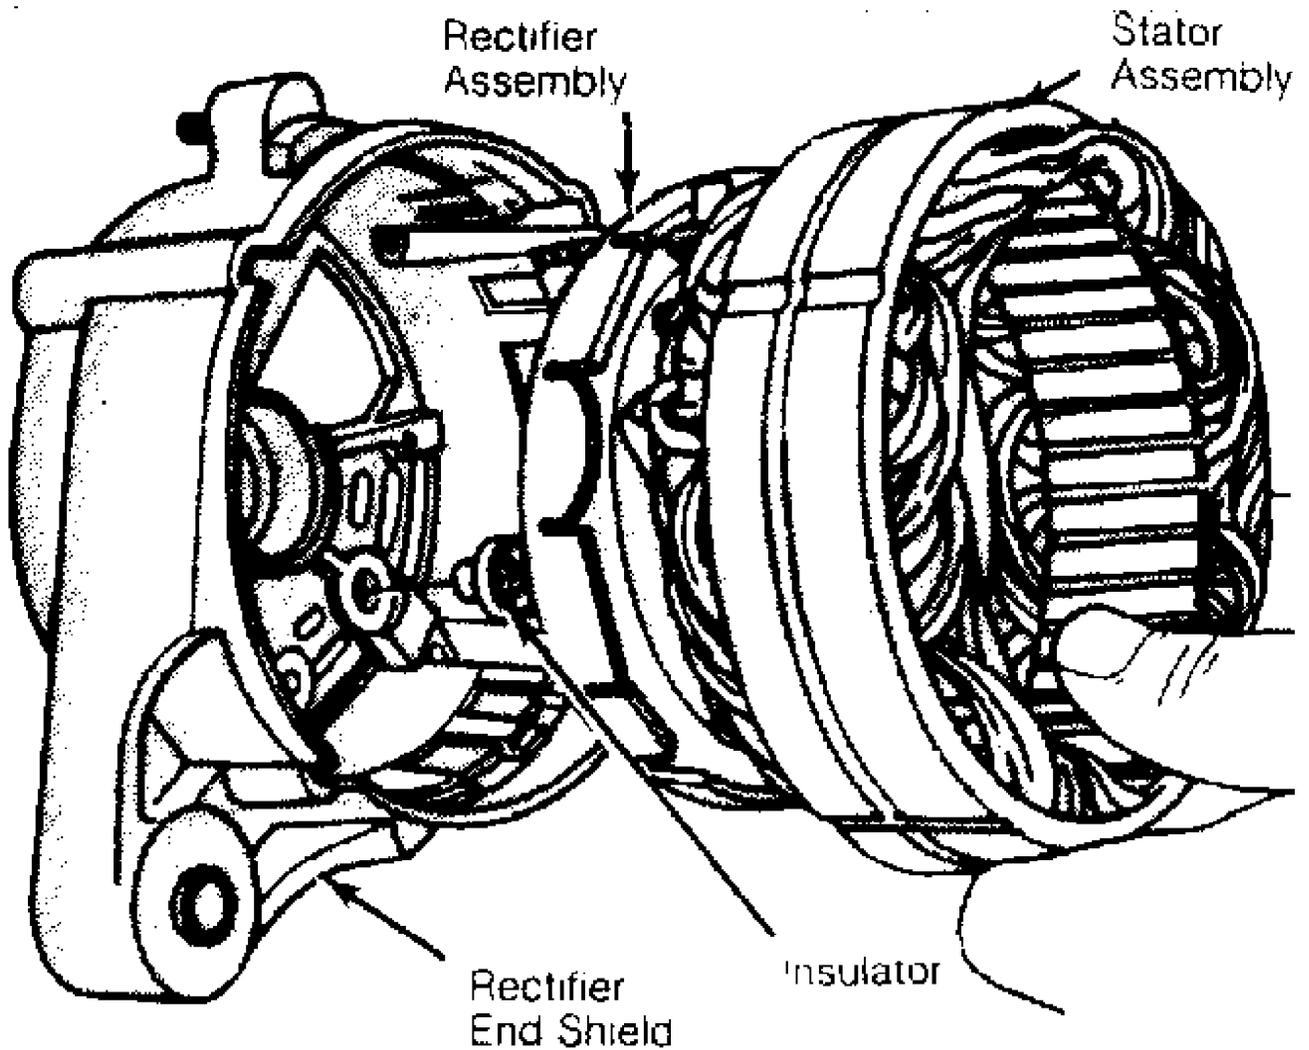

Fig. 9: Removing Rectifier & Stator Assembly
4) Remove rectifier, stator, and battery positive post insulator. See Fig. 9. Using a soldering gun, unsolder stator leads from rectifier. Remove drive end shield bearing retainer screws. Pull rotor assembly from drive end shield.